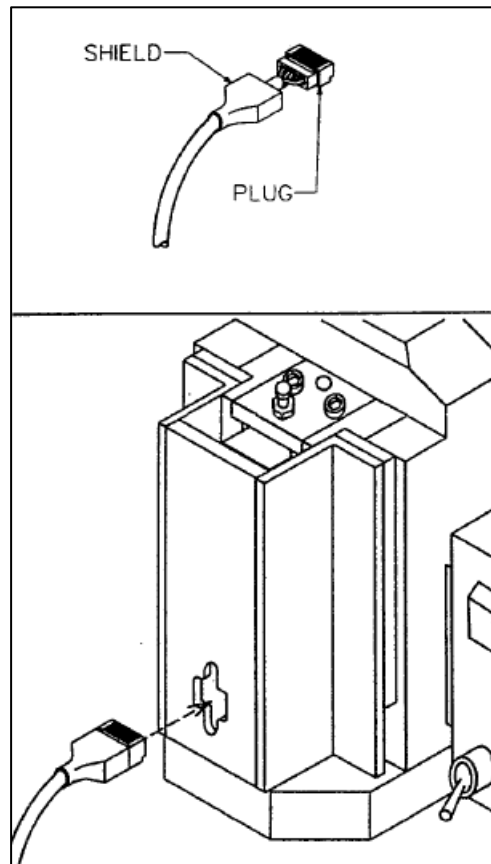

Figure 2-2
1. Slide a shield onto a length of pre-stripped cable then insert the cable into a modular connector. See Figure 2-2.
3. Insert the connector assembly into the opening in the guard guiding it into the termination nest and up to the stop. See Figure 2-2.